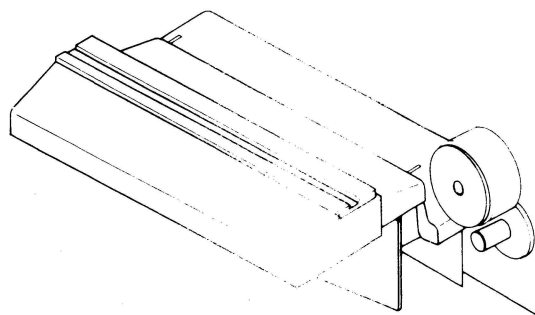

Fig. IV-1 Lifting Head Cover
1. Lift the head cover as illustrated Fig. IV-1.
2. Lift head cover as illustrated in Fig. IV-1.